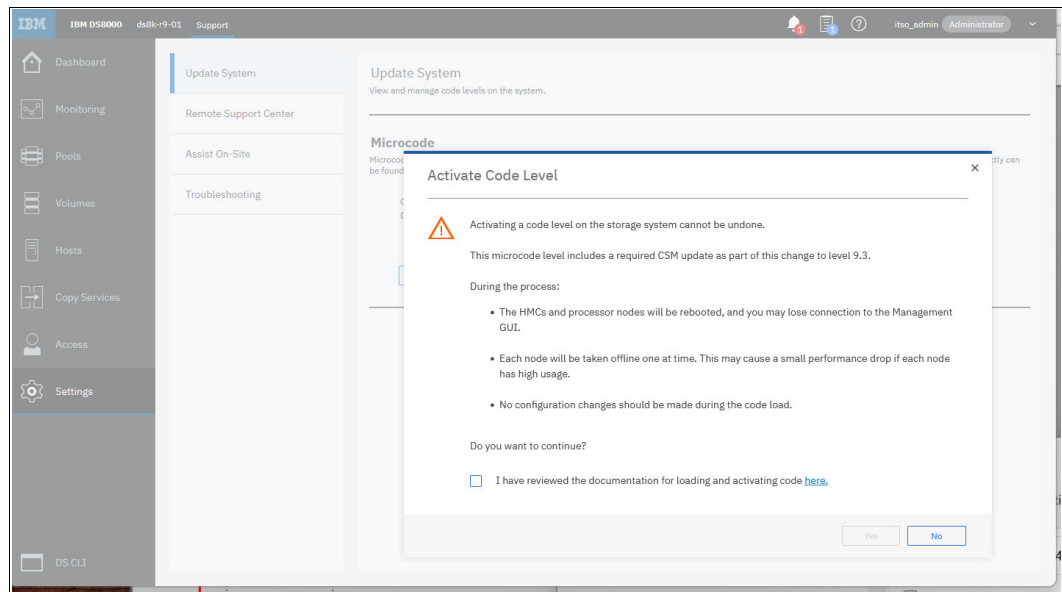

Figure 11-10 Code Activation Message
5. To activate the code, select **Health Check and Activate**. A new attention message appears in the Storage Manager GUI and notifies you about the actions that are about to be performed, as shown in Figure 11-10 on page 417. To start, click **Yes**.